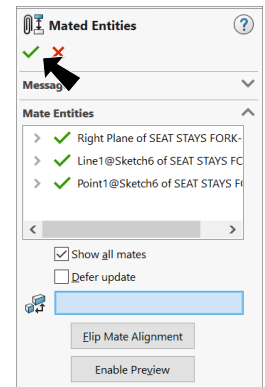

Fig. 23
Step 4. In the Mated Entities Property Manager click OK ✓, Fig. 23.